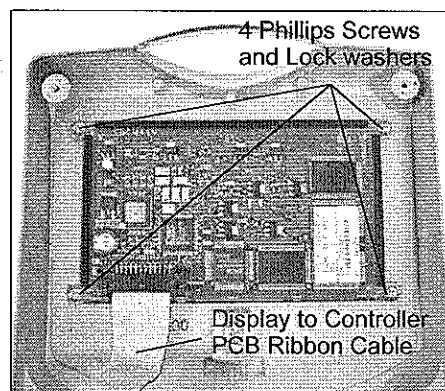

Figure 5-7: EL PCB
3. Remove four corner Phillips screws and lock washers from the EL PCB (see Figure 5-7).
3. Secure the EL PCB to the enclosure with four corner Phillips screws and lock washers (see Figure 5-7).
3. Remove the Display to Controller PCB Ribbon Cable from the EL PCB (see Figure 5-7).
1. Connect the Display to Controller PCB Ribbon Cable to the EL PCB (see Figure 5-7).